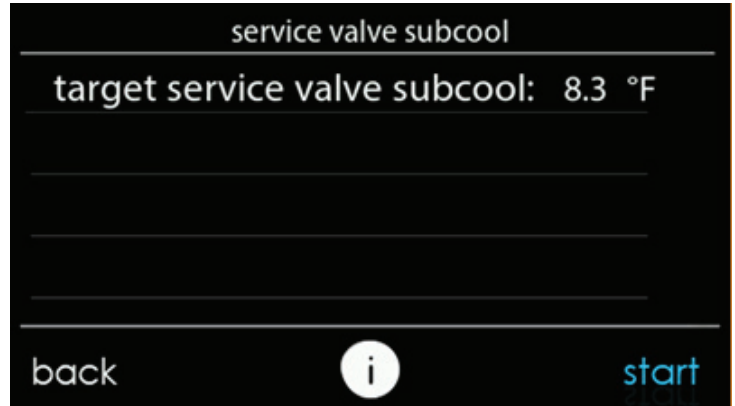

Fig. 13 – Liquid Service Valve Subcooling Target
6. The next screen will show the target subcooling that should be attained while charging (see Fig. 13). Before selecting "Start" verify that the service valves are open.